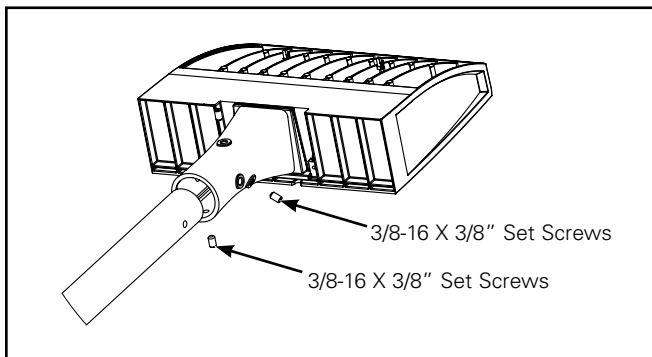
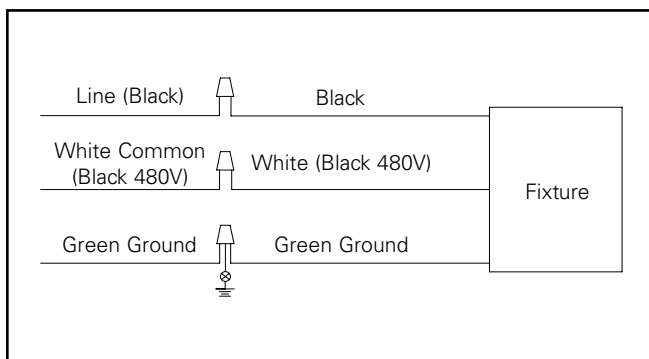

Figure 5.
Figure 7.
Pole Mount - Mast arm option (Figure 5. - Figure 7.)
1. Slip the assembly over the mast arm (Figure 5).
4. Make wire connections inside the mounting arm. Refer to wire diagram for power connections (Figure 7). Connect the supply wires to appropriate luminaire leads.